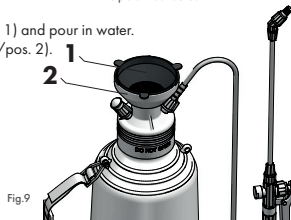

Fig. 9
Insert the strainer (fig. 9/pos. 2) to the head cup (fig. 9/pos. 1) and pour in water. Remove the strainer (fig. 9/pos. 1) from the head cup (fig. 9/pos. 2).
Insert the strainer (fig. 9/pos. 2) to the head cup (fig. 9/pos. 1) and pour in the previously prepared spray liquid in accordance with manufacturer guidelines.
Remove the strainer (fig. 9/pos. 1) from the head cup (fig. 9/pos. 2). Screw the pump (fig. 1/pos. 5) into the head (fig. 1/pos. 4). To do this, lock the piston rod (fig. 8/pos. 2) in the cylinder brackets (fig. 11/pos. 2). Remember that the connection must be airtight. The locked piston rod may be used as a transport handle.